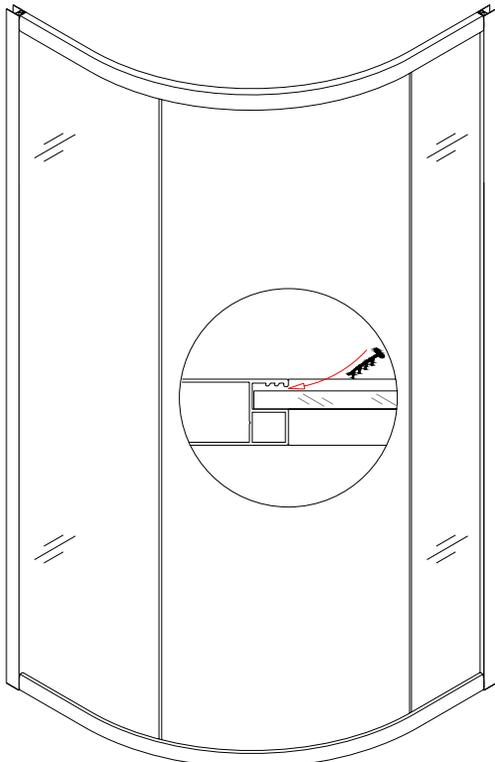
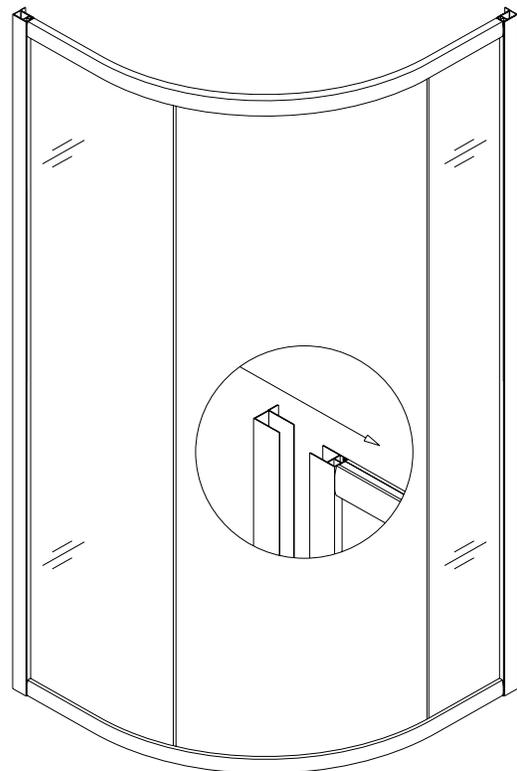

Fig 3
Fig 4
3. Push the **Single side strip (09)** between glass and the side of the groove to seal the gap and prevent from water leaks. See fig. 3 for details.
4. Repeat the Steps 2-3 for the **Stationary glass 2 (05)**.
5. Push the **Wall profile (01)** all the way over the **Glass profile (02)**. Be sure to keep the lip with the predrilled holes inside the shower enclosure. See fig. 4 for details.